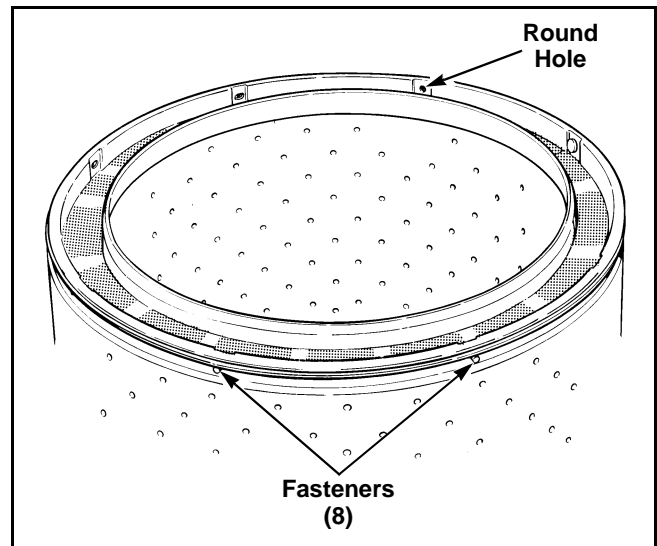

Figure 36
- g. Remove the eight fasteners holding lint filter to washtub. Refer to *Figure 36*.